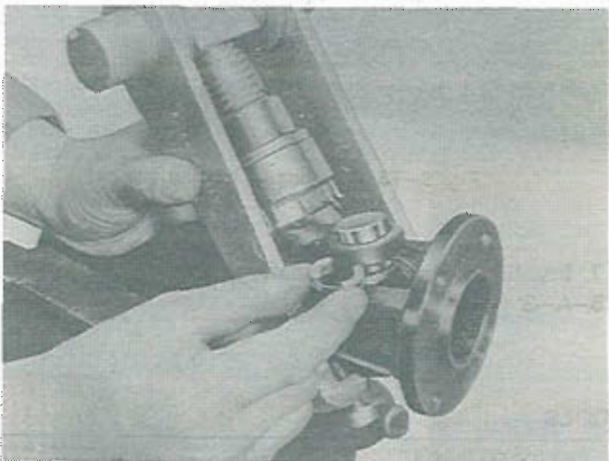

Fig. 8-6 Installing of spacer
5. Loosen the center bolt and install the spacer between the yoke and the spider as shown in Fig. 8-6.